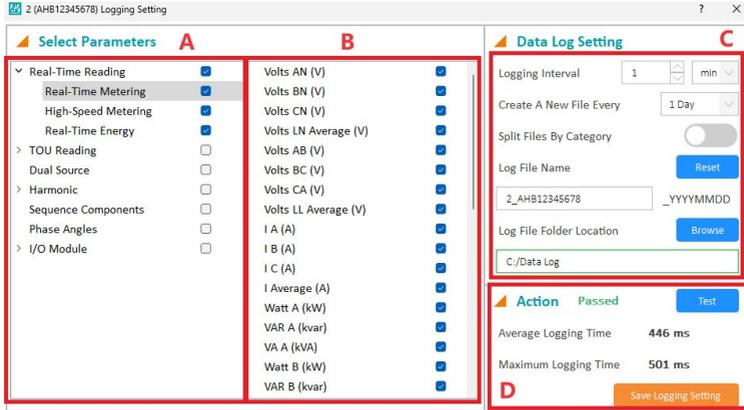

Figure 4-11 Individual Device Data Log Setting
- **Split Files By Category:** Switch on to split the logging files based on the category. Take Figure 4-11 as an example. If this option is turned off, all data will be stored under a file named "2\_AHB12345678\_YYYYMMDD.csv". If this option is turned on, all data will be separated by the category and store under three files named "2\_AHB12345678\_Real-Time Metering\_YYYYMMDD.csv", "2\_AHB12345678\_High-Speed Metering\_YYYYMMDD.csv" and "2\_